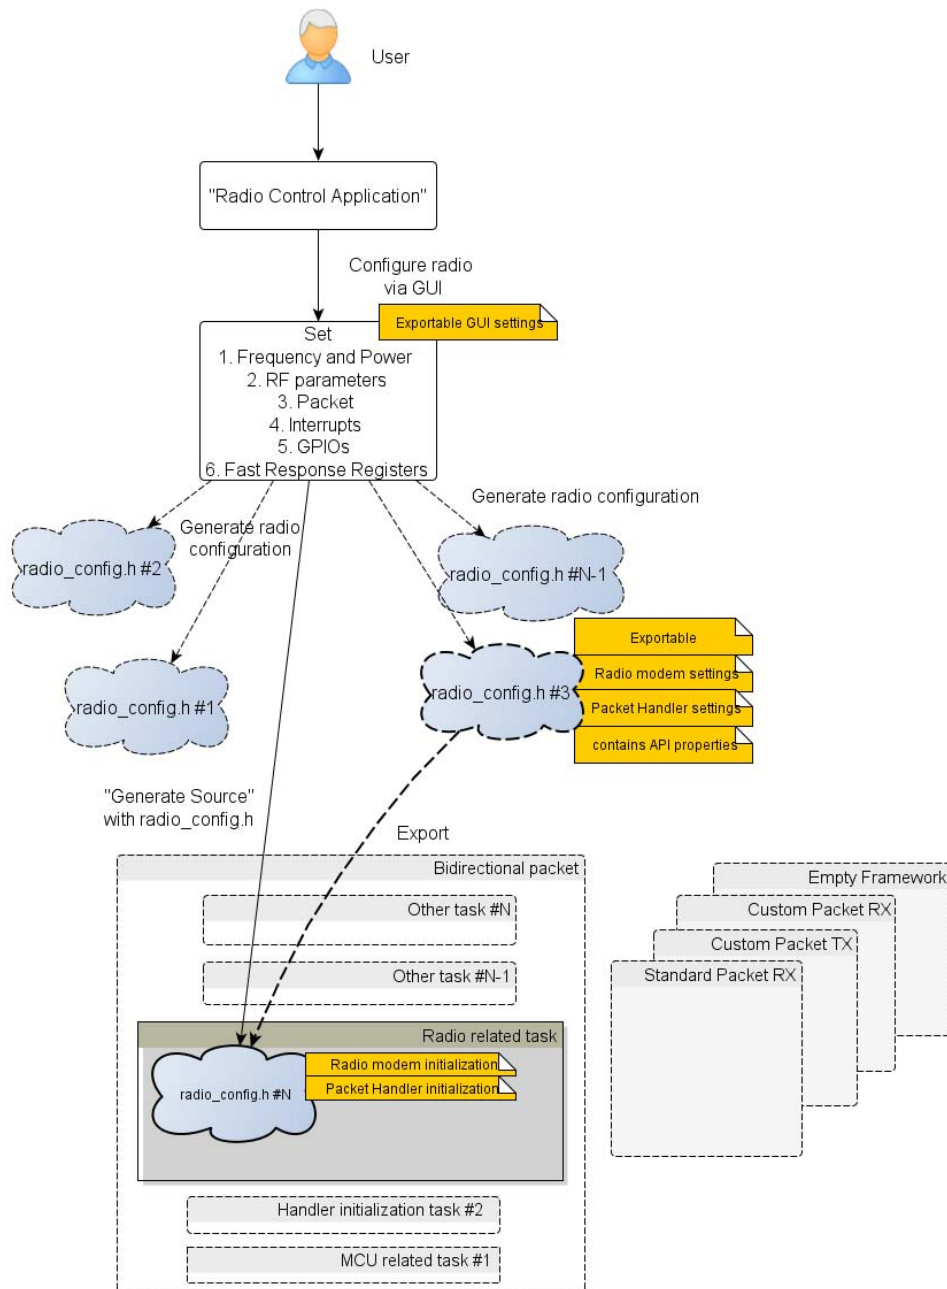

Figure 15. Radio Header File Role
- Added Figure 15, “Radio Header File Role,” on page 24.